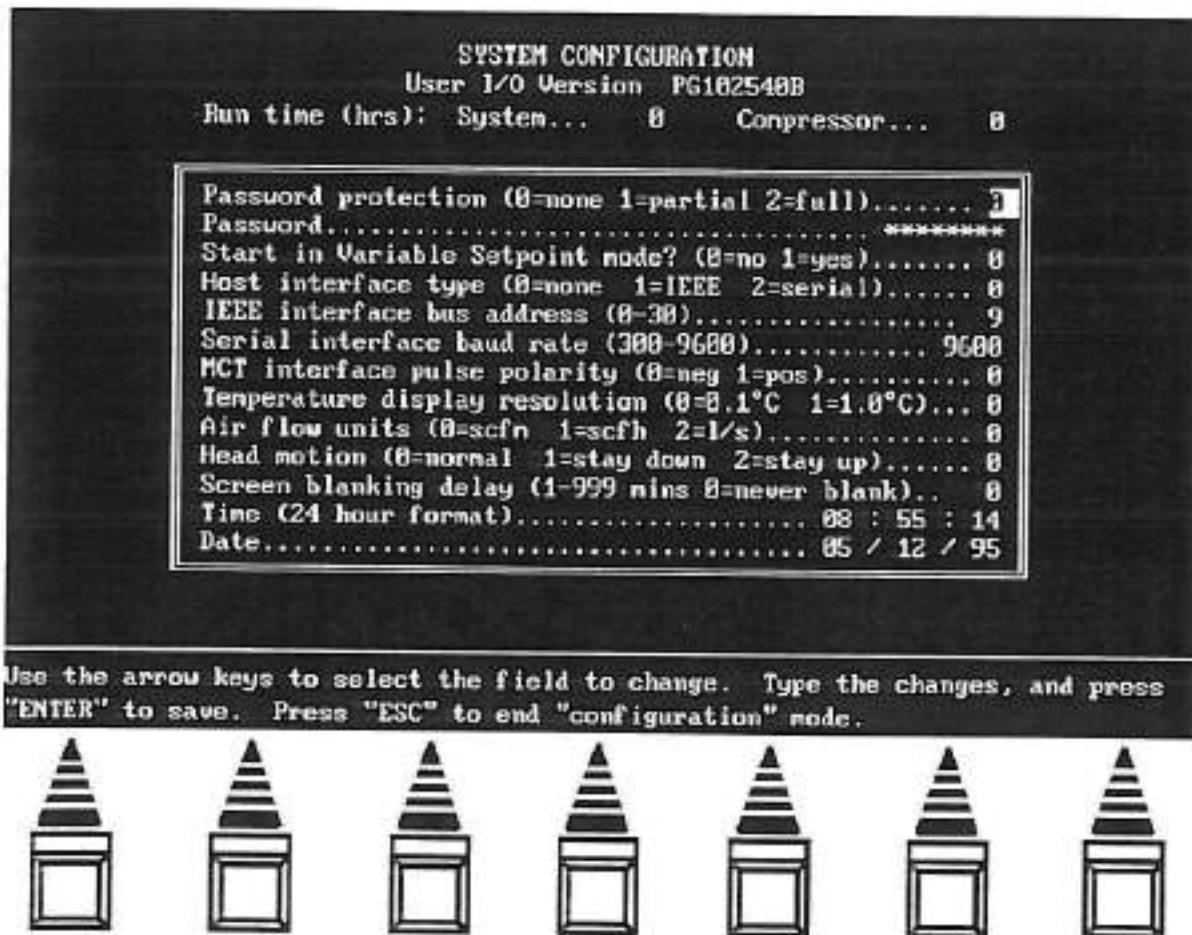

Figure 5-1. System Configuration Screen Showing Run Time
2. Select **Configuration** with the function key to access the *System Configuration Screen* (see Figure 5-1).